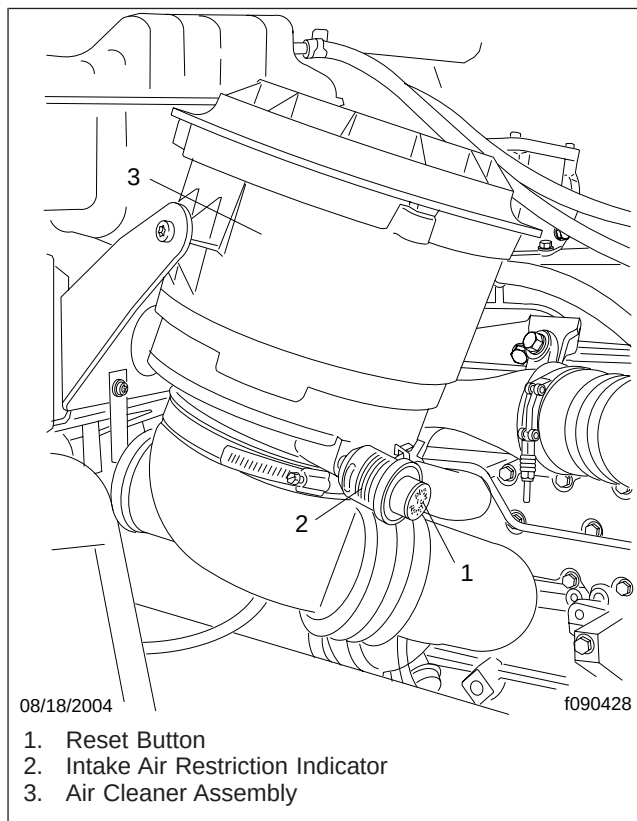

Fig. 1, Indicator Mounted Under the Hood
3. Using a wrench, remove the intake air restriction indicator from the intake air piping. See Fig. 1.